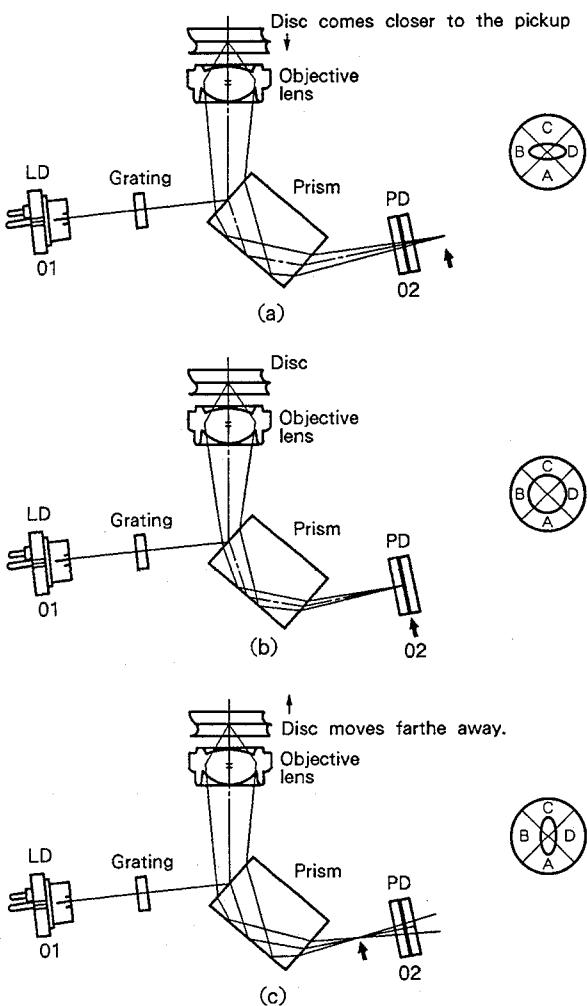
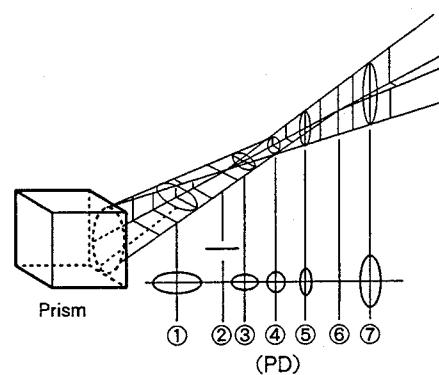

Fig. 9-4
Fig. 9-5 Quadrangular prism
In this system, the data on the disc, which is represented by pits, is converted into an electrical signal at the photodiode according to the intensity (brightness) of the reflected beam. The RF signal is then produced from this electrical signal by the arithmetic-logic circuit. Fig. 9-4 shows how the focus signal is detected. (b) is when the beam from the laser diode is accurately focused on the disc by the objective lens.
Fig. 9-5 shows the characteristics of the quadrangular prism.
① through ⑦ shows the shape of the beam at each point. Between points ② and ⑥, which are in a straight line, the beam is circular at point ④. If we assume that Fig. 9-5 shows mode (b) of Fig. 9-4, that means the beam is circular because the photo diode is located at point ④.
In mode (a) of Fig. 9-4, the location of the photo diode is closer to the quadrangular prism than it was in Fig. 9-5. That means the shape of the beam is the same as that of point ③ (an ellipse that has a longer width than height). In mode (c) of Fig. 9-4, the shape of the beam is that of point ⑤, an ellipse that has a longer height than width.